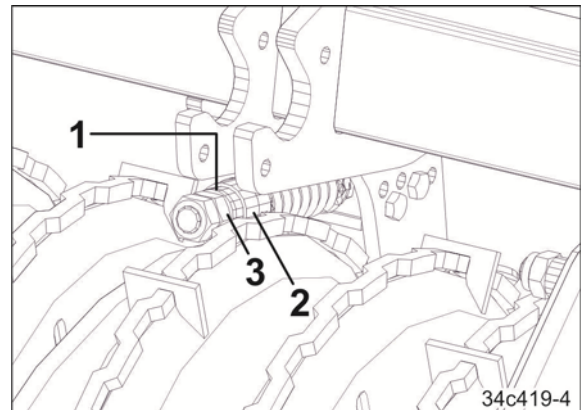

Fig. 96
2. Insert 1 to 2 spacer discs (Fig. 96/1) between the socket (Fig. 96/2) and hexagon nut (Fig. 96/3).